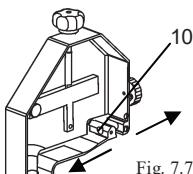

Fig. 7.7.8
- Remove the screw fixtures on the blade guide "10" as in illustrated in fig. 7.7.8 and wash utilising a pH 7 neutral detergent